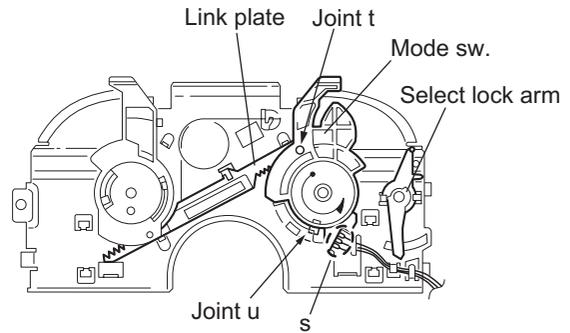

Fig.22
**(See Figs.22 and 23)**
- (1) Bring up the mode sw. to release from the link plate (joint **t**) and turn in the direction of the arrow to release the joint **u**.
- (2) Unsolder the wire of the mode sw. marked **s** if necessary.
- (3) Turn the select lock arm in the direction of the arrow to release the two joints **v**.
- (4) The select lock arm spring comes off the select lock arm at the same time.